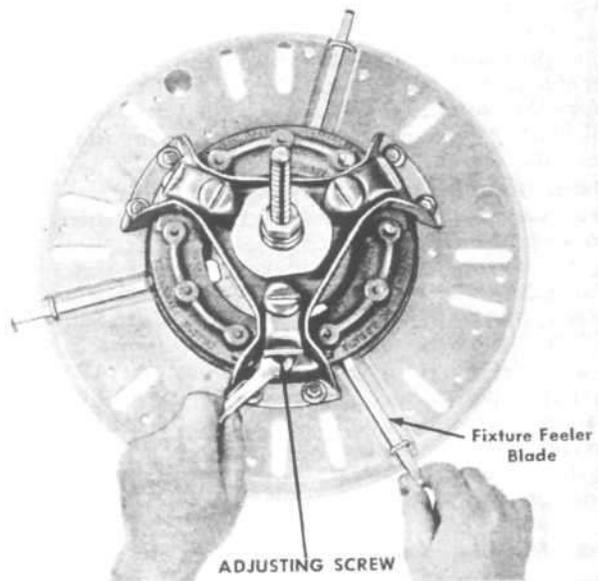

FIG. 177—ADJUSTING LEVERS ON AUBURN CLUTCH
- k. Adjust pressure plate levers by turning lever adjusting screws, Fig. 177, until each of the three fixture feeler blades have the same slight drag or "feel" when pushed in and out. Tighten lock nuts.